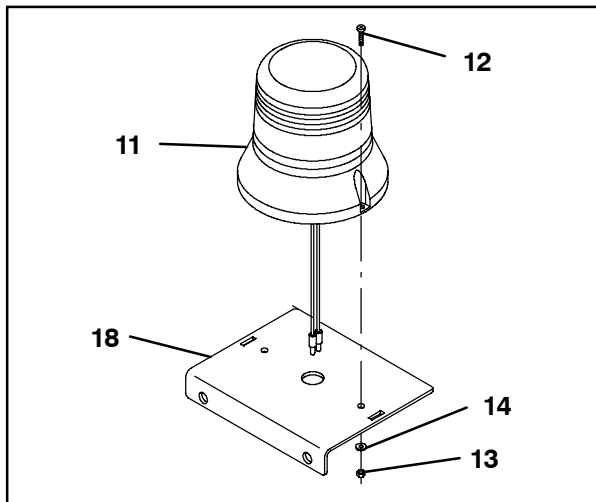

FIG. 2
6. Trim the strobe light (11) wires to a 9" length and backup alarm (1) wires to a 5" length. Crimp the bullet terminals (27) onto the wires.
7. Trim the spot light (8) wires to a 6" length and crimp the QF terminals (28) onto the wires.
8. Route the strobe light (11) cable through the hole in the light mounting plate (18) and use two pan screws (12), two flat washers (14), and two hex nuts (13) to install the light onto the light mounting plate. Refer to Fig. 2.